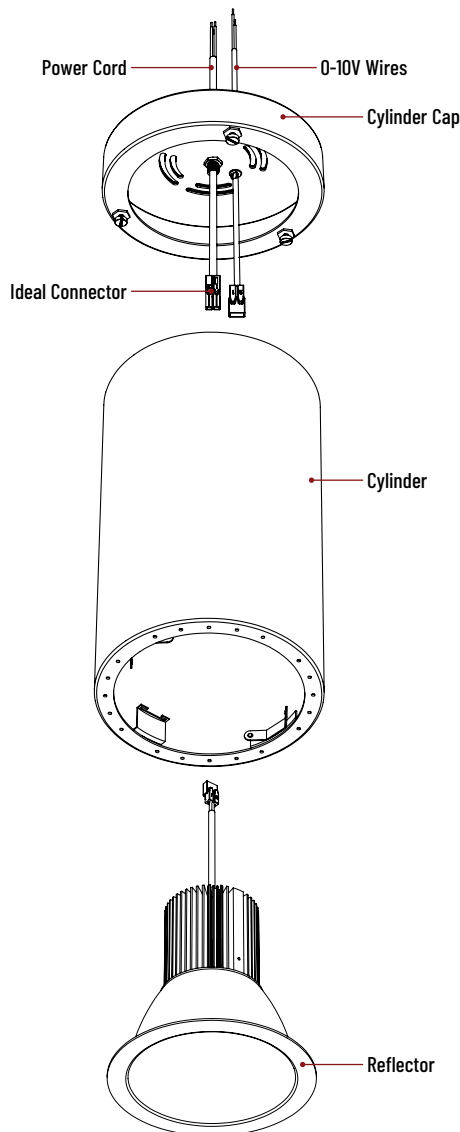

Figure 1
2. Remove knockouts on cylinder cap. (Figure 1)